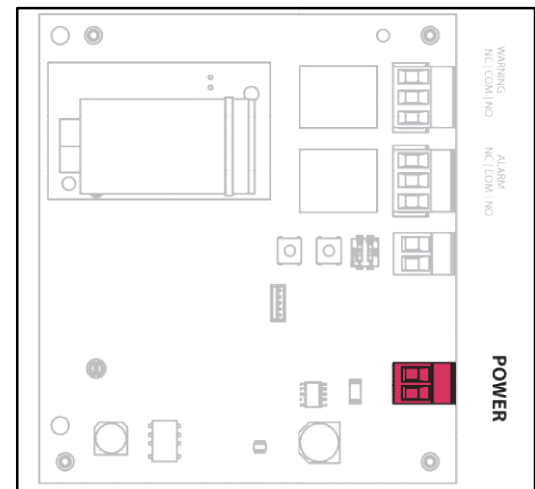

Figure 6: Location of Power Terminal
1. Power down the controller, this can be done by unplugging the controller power terminal (see Figure 6).
Power connection to the controller is made at the two-terminal screw connector located at the bottom-right side of the board (highlighted in Figure 6). Power to the controller can be either AC or DC voltage; DC voltage can be connected in either polarity (see *Section 1.0* for more details). To wire power: